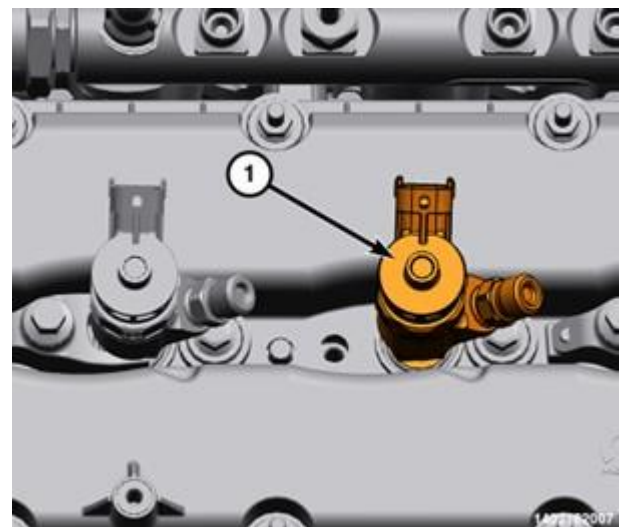

Figure 128 – Fuel Injectors
66. Using your hand, pull the fuel injectors (1) straight up from the cylinder head for removal. Discard the lower sealing washer and place a protective cap over the injector bore (Figure 128).